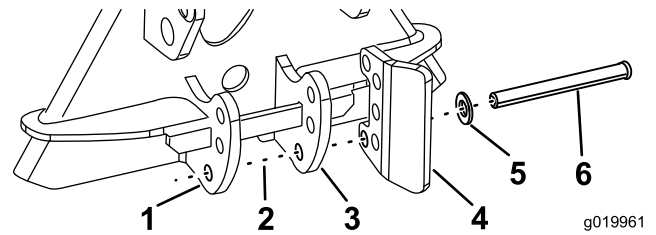
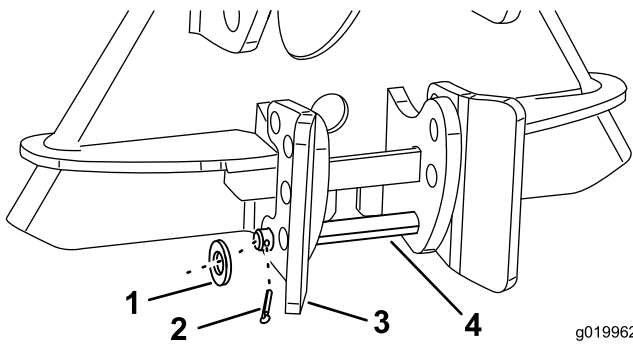

Figure 8
Figure 9
1. Install the clevis pin and a washer in the lowest hole on one of the rake stop plates, through the right hand stop plate, and through the latch mechanism (Figure 8).
2. Slide the pin through the left hand stop plate and through the lowest hole on the other rake stop plate (Figure 8 and Figure 9).
3. Slide a washer onto the clevis pin and secure it with the cotter pin, bending the ends of the cotter pin to secure it (Figure 9).